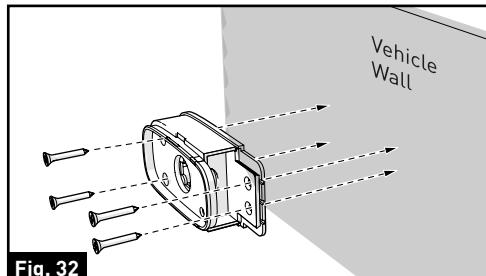

Fig. 32
5. Secure the traffic light base on the vehicle wall using four flat self-tapping screws (quad drive flat head #6 x 3/4" self-drilling wood screw). [Fig. 32]